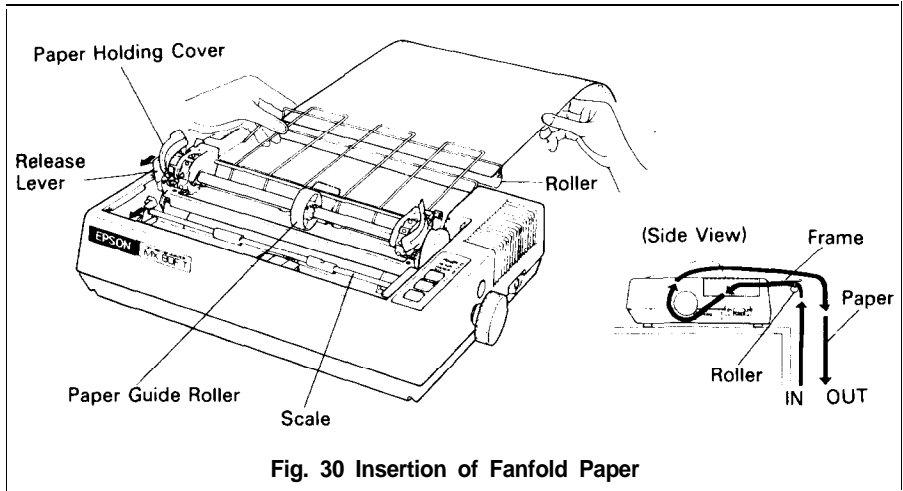

Fig. 30 Insertion of Fanfold Paper
(See Fig. 30.)
STEP 5. Raise the two paper holding covers, and be sure to insert the fanfold paper between the frame and plastic roller of the separator. (See Fig. 30.)